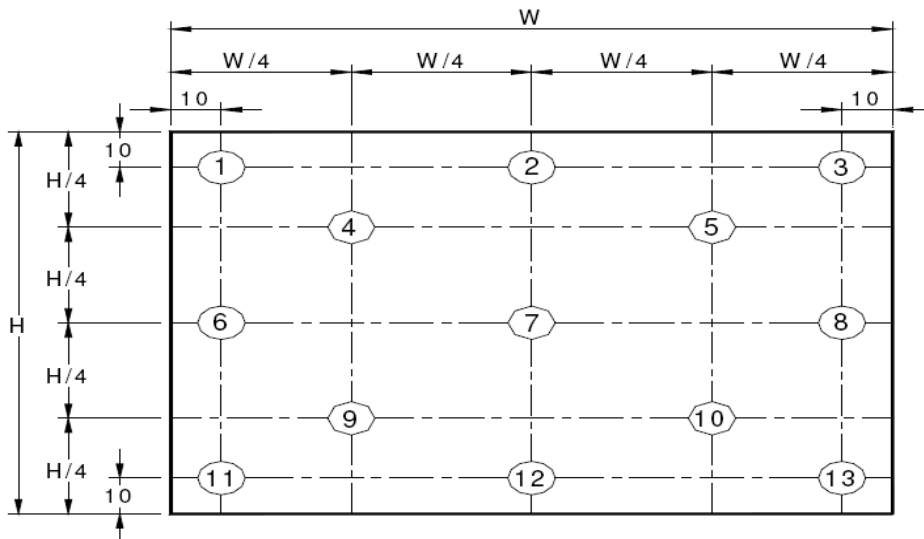

Figure 9. Uniformity Measurement Locations (13 points)
4. The White luminance uniformity on LCD surface is then expressed as : $\Delta Y = \text{Minimum Luminance of 5(or 13) points} / \text{Maximum Luminance of 5(or 13) points.}$ (see Figure 8 and Figure 9).
The White luminance uniformity on LCD surface is then expressed as : $\Delta Y5 = \text{Minimum Luminance of five points} / \text{Maximum Luminance of five points}$ (see Figure 8) , $\Delta Y13 = \text{Minimum Luminance of 13 points} / \text{Maximum Luminance of 13 points}$ (see Figure 9).